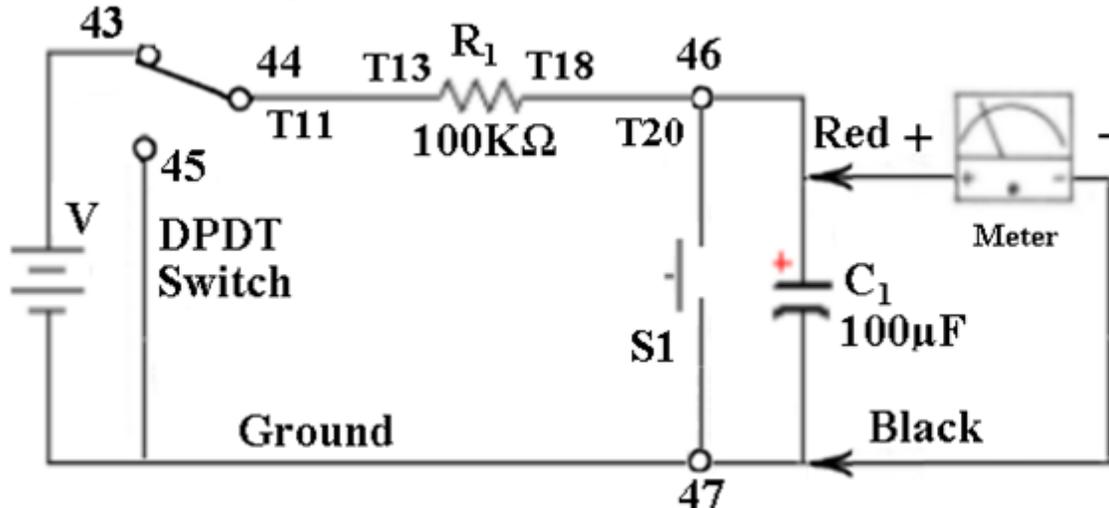

Figure 3.4. Possible Console Breadboard Layout of Capacitor Charging Schematic
1.1 To make connections and disconnections simpler, we will use the double-pole/double-throw **DPDT Switch** (springs #43 – #45) and **SPST** push button **S1** (springs 46 and 47) to connect parts of this circuit and enable us to easily short out the capacitor. Using Figure 3.4 as a guide, connect a **RED** wire from the unregulated voltage **V** (e.g., the top left voltage connection at '5') to **Spring #43** and connect a **YELLOW** wire from **Spring #44** to Breadboard connection **T11**. Insert a **100KΩ** resistor [brown-black-yellow-gold] between connections **T13** and **T18**. Use a **YELLOW** wire to connect between **T20** and **Spring #46**. Connect a **BLACK** wire between **Spring #45** and **Spring #47** and another **BLACK** wire from **Spring #47** to **ground**. Connect the **100μF** capacitor between **Spring #46** and **Spring #47** (minus lead). Now connect the Multimeter's **RED (+)** lead to **Spring #46** and the **BLACK (-)** lead to **Spring #47**. Set the meter to the **20V** range and place the **DPDT** Switch in the **UP** position.